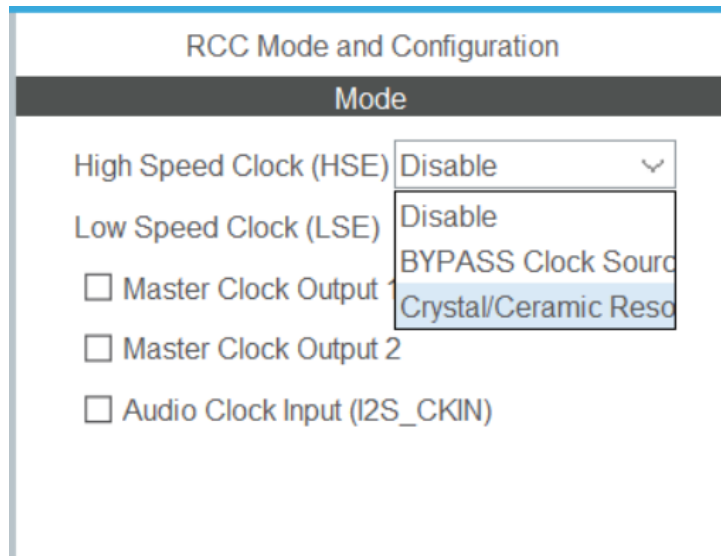

Figure 1.8: RCC mode and Configuration
- You can select the clock source from external crystal by enabling it from the HSE drop list as shown in Figure 1.8